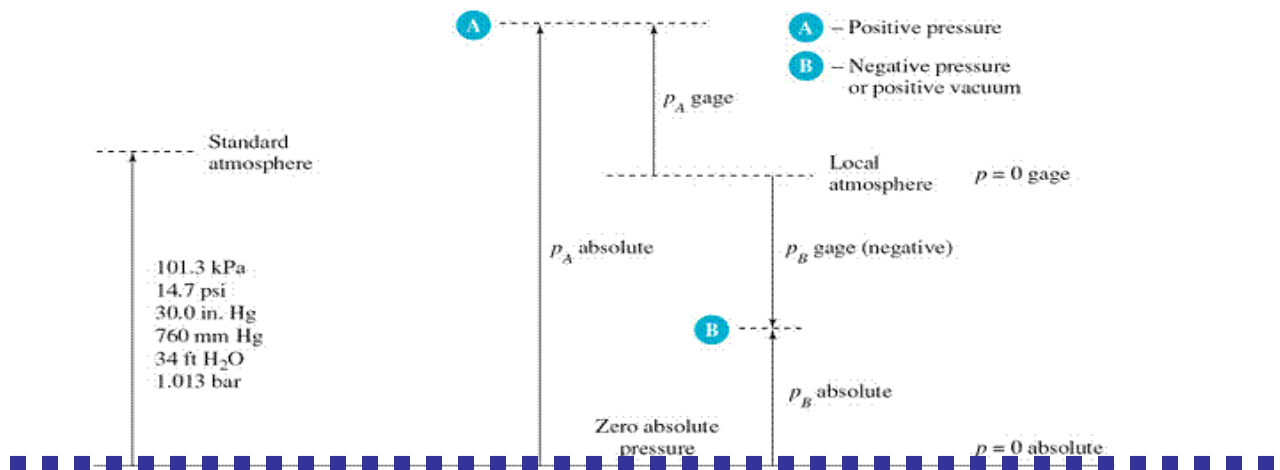

Fig.4 Definition of Absolute Pressure, Gauge Pressure and Vacuum Pressure
- **Absolute pressure:** Absolute pressure at a point is the intensity of pressure at that point measured with reference to absolute vacuum or absolute zero pressure. Absolute pressure at a point is the intensity of pressure at that point measured with reference to absolute vacuum or absolute zero pressure (Fig.4) .
Gauge pressure at a point may be more than the atmospheric pressure or less than the atmospheric pressure. Accordingly gauge pressure at the point may be positive or negative (Fig.4)
Negative gauge pressure: It is also called vacuum pressure. From the figure, It is the pressure measured below the gauge pressure (Fig.4).